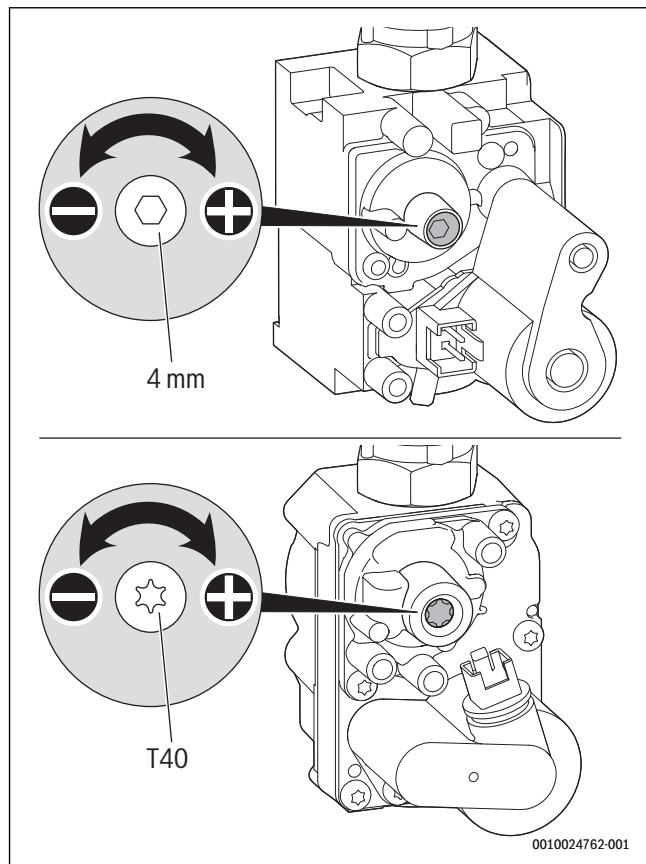

Fig. 97 Setting the CO₂ or O₂ content (above: SIT valve, below: Honeywell valve)
- ▶ Remove the seal from the adjusting screw of the air/gas ratio control valve (only air/gas ratio control valve is shown in the below Fig. 97) and set the CO₂ or O₂ content for minimum rated output.